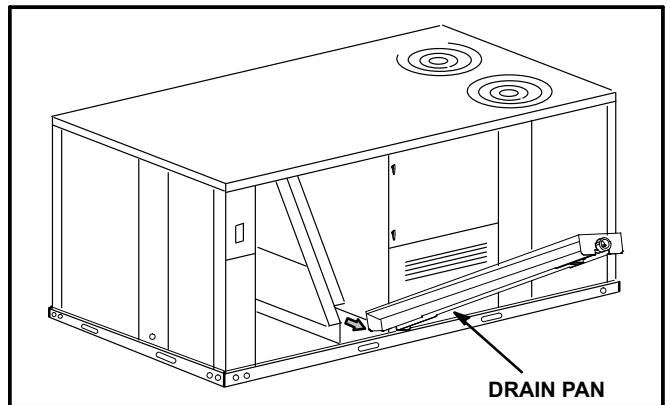

FIGURE 7
5- Lift front edge of the drain pan (to clear bottom drain plug) and slide drain pan out of unit. See figure 7.
- 5- Lift front edge of the drain pan (to clear bottom drain plug) and slide drain pan out of unit. See figure 7.